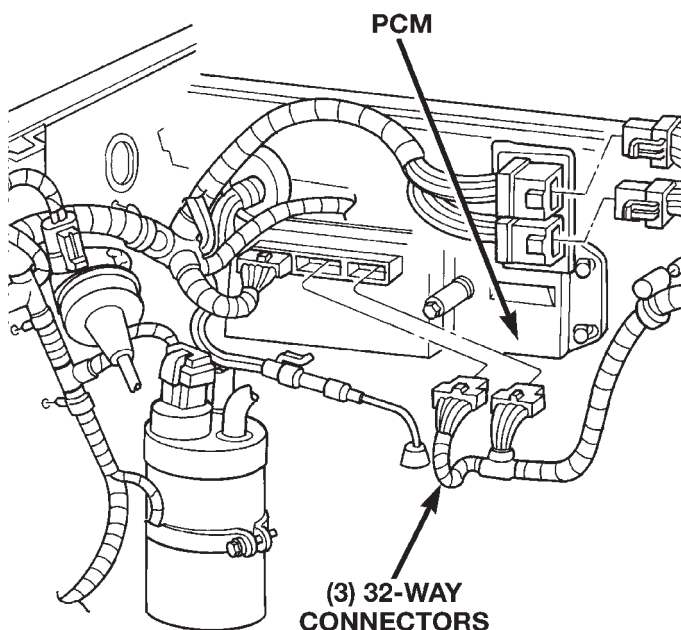

Fig. 8 PCM and Three 32-Way Connectors
(3) Attach one lead of a voltmeter to the positive (12 volt) jumper wire. Attach the negative side of voltmeter to a good ground. Determine that sufficient battery voltage (12.4 volts) is present for the starting and ignition systems.
(4) Determine that sufficient battery voltage (12.4 volts) is present for the starting and ignition systems.
(5) Crank the engine for 5 seconds while monitoring the voltage at the coil positive terminal:
- If voltage remains at or near battery voltage during the entire 5 seconds, turn the key off. Remove the three 32-way connectors (Fig. 8) from the PCM. Check 32-way connectors for any spread terminals or corrosion.